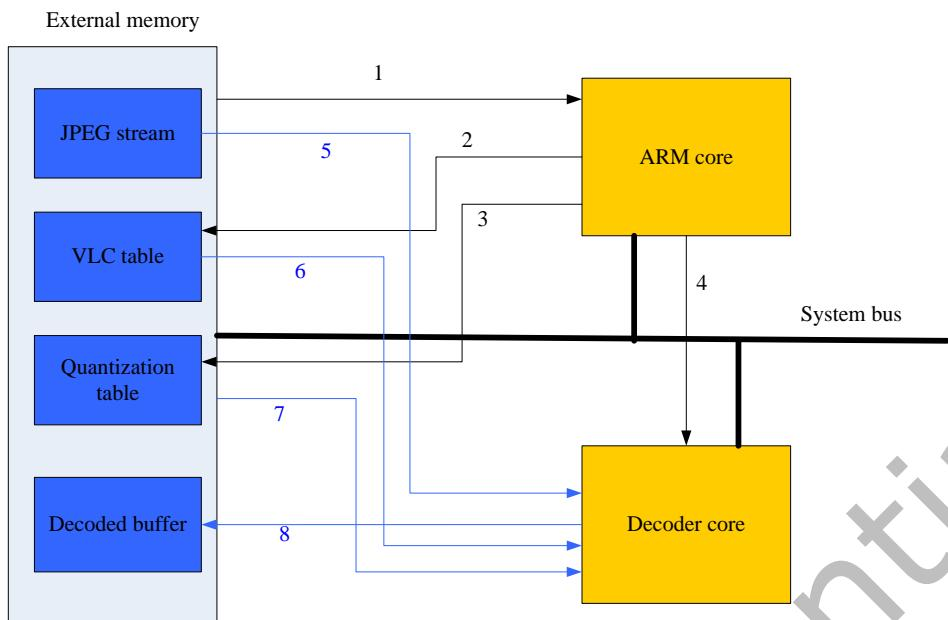

Fig. 6-46 The dataflow of JPEG decoder
The data flow of jpeg decoder is as Fig. 6-46 shown. The decoder software starts decoding the picture by parsing the stream headers (1) and then writes the following items to external memory: